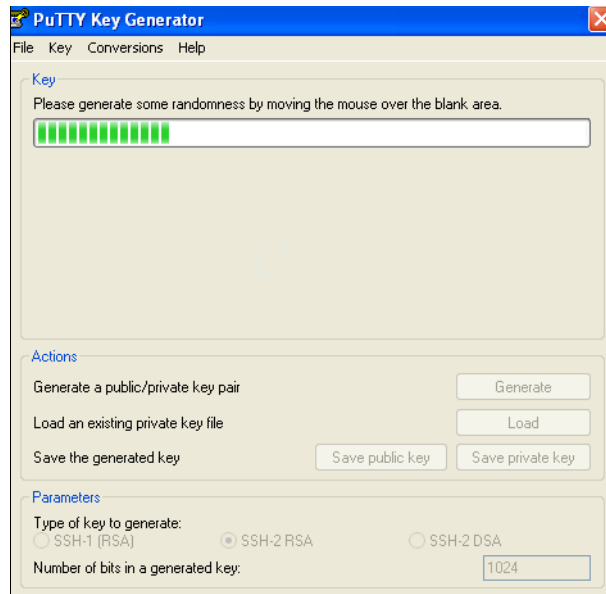

Figure A-2 Generate keys
2. Click **Generate** and move the cursor over the blank area to generate the keys (Figure A-2).